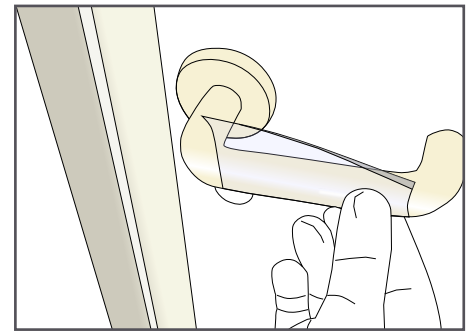

Figure 17
- › Continue the film application wrapping all around the handle while moving with your hand from left to right so as to properly apply the film to the full width of the handle. (FIG. 17)